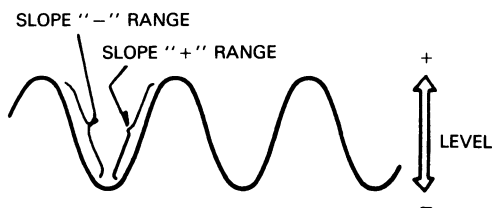

Fig. 9
Trigger point on waveform is adjusted by the LEVEL/PULL SLOPE ② control. Fig. 9 shows the relationship between the SLOPE and LEVEL of the trigger point. Triggering level can be adjusted as necessary.